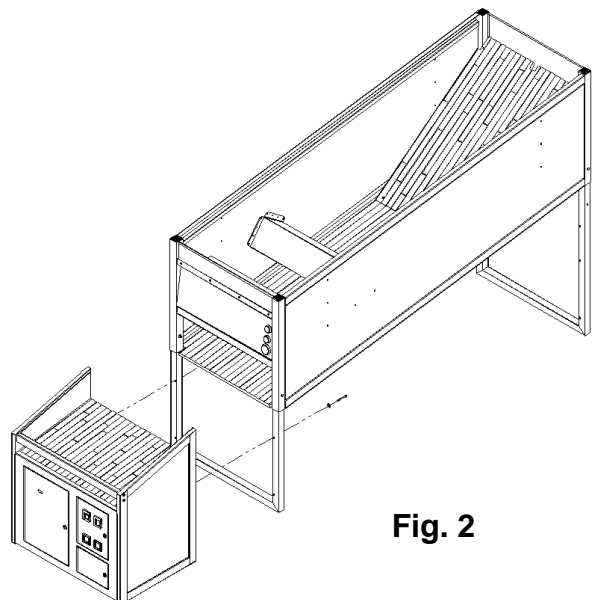

Fig. 2
5. Move the cabinet to the front of the frame and bolt it to the frame by installing the mounting bolts through the back of the front legs and into the front cabinet's mounting holes. Secure with (4) 1/4-20 X 3" security head Allen bolts and 4 flat black washers. (See Fig. 2)